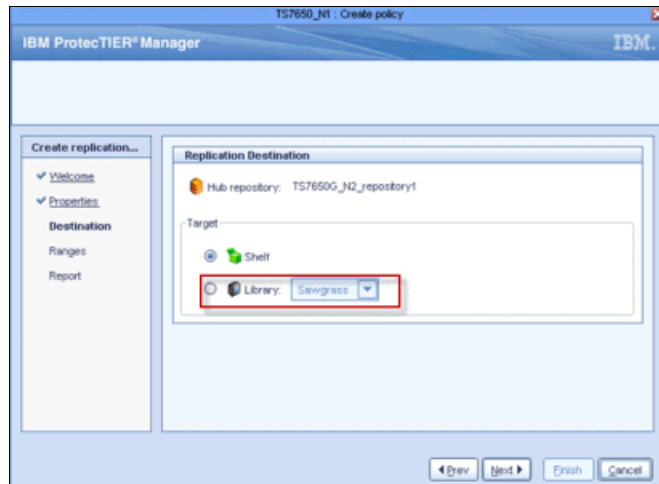

Figure 22-8 Set replication destination
- Define a replication policy at ProtecTIER server A with a target destination to a VTL of ProtecTIER server B (Figure 22-8). By default, replication takes place after a backup is started and it runs to completion. This can make it difficult to determine the replication completion time. Use a replication schedule so that the cloning process can be scheduled upon replication completion.